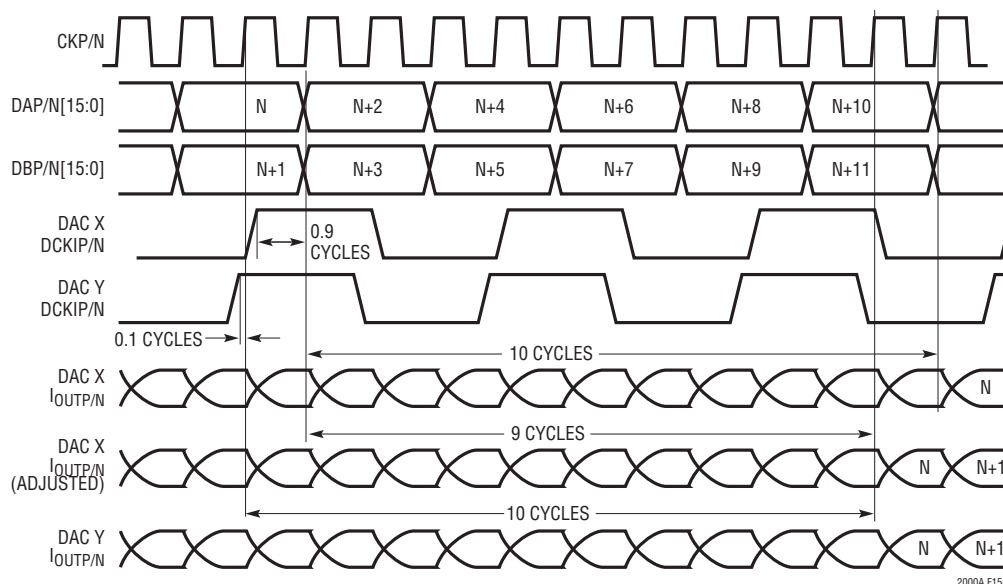

Figure 15a. Sample Waveforms — Synchronizing Multiple LTC2000As in Dual Port Mode
the default behavior is for the output of DAC Y to update with sample N one cycle earlier than the output of DAC X. It is possible to correct this misalignment and synchronize DACs X and Y by adjusting the clock synchronizer settings to subtract one cycle of latency from DAC X, as shown in the adjusted waveform at the bottom of Figure 15a. See the Clock Synchronizer section and Figure 7 for more details on the operation of the clock synchronizer.
Once all the DAC sample clocks and LVDS data clocks are aligned, determine whether any DACs are being updated one cycle late (such as DAC X in Figure 15a) by determining whether DCKIP/N is arriving at the DACs within the same CKP/N clock cycle. To do this in dual-port mode, first use the phase comparator outputs SYNC_PH and Table 12 to determine the delay from the DCKIP/N rising edge to the next CKP/N rising edge for each DAC (measured in sample clock cycles).
Recall that the DCKIP/N timing mismatch must be kept below 0.4 cycles of the sample clock. If DCKIP/N arrives at both DACs within the same sample clock cycle, the difference in DCKIP/N to CKP/N delays indicated by SYNC_PH will equal the actual DCKIP/N timing mismatch, and thus will be less than 0.4 cycles. If DCKIP/N arrives at the DACs within different cycles, as in Figure 15a, the difference in the delays indicated by SYNC_PH will equal 1 cycle minus the actual DCKIP/N timing mismatch, and thus will be greater than 0.4 cycles. Thus if the difference between the delays indicated by SYNC_PH is greater than
For the example in Figure 15a, we might read 0x25 for SYNC_PH on DAC X and 0x52 on DAC Y. Table 12 tells us that the DCKIP/N to CKP/N delay is greater than 0.8 cycles for DAC X and less than 0.2 cycles for DAC Y, and thus the difference between them is at least 0.6 cycles. We conclude that the DCKIP/N rising edge of DAC X must fall within a later sample clock cycle than that of DAC Y, and thus that DAC X is being updated one cycle later than DAC Y.
In this example, reading register 0x06 of DAC X shows SYNC_PH = 0x25 and that the SYNC_PS setting needs to change from the default (10) to the desired adjusted value (00), subtracting one cycle from the latency of DAC X (refer to Table 12). Write 0x04 to register 0x05 of DAC X to set SYNC_MSYN = 1 and SYNC_PS = 00. The outputs of DAC X should now align with DAC Y as shown in Figure 15a. See Table 6 for details regarding the synchronizer registers 0x05 and 0x06. Sample verilog code implementing the synchronization of multiple LTC2000As using Tables 12 and 13 can be found at: